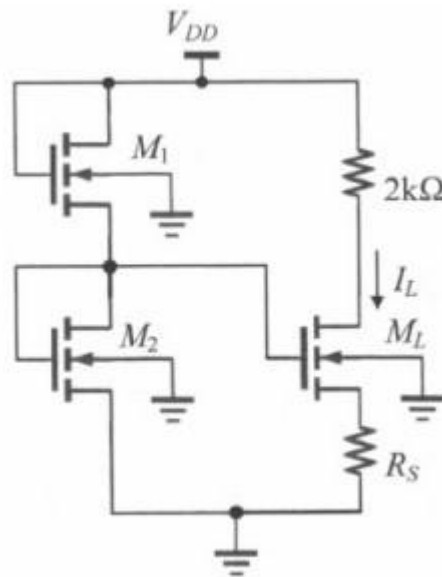

Figure 2: Widlar Current Mirror Circuit
1. The Widlar current mirror circuit using MOSFET is shown in Figure 2.